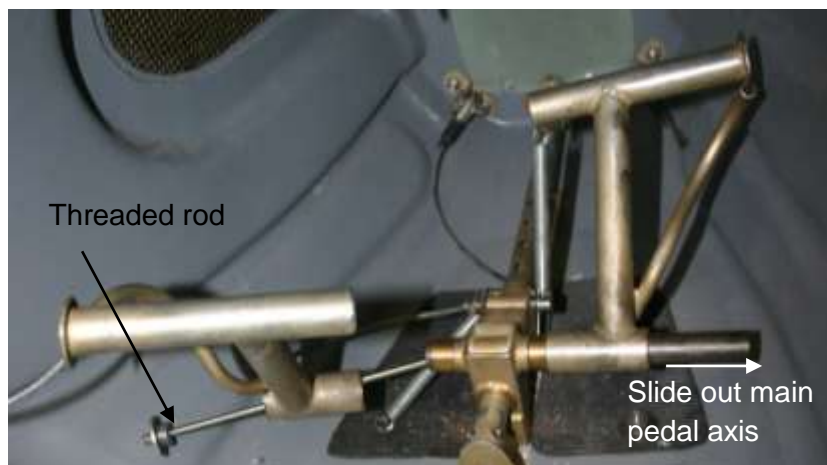

Figure 1: Removal of the Rudder Pedals
4. Remove and replace the threaded shaft (D1A-1.21 Item 8) with the new supplied threaded shaft (1A-1.21.20.14#v2) as depicted in figure 1.